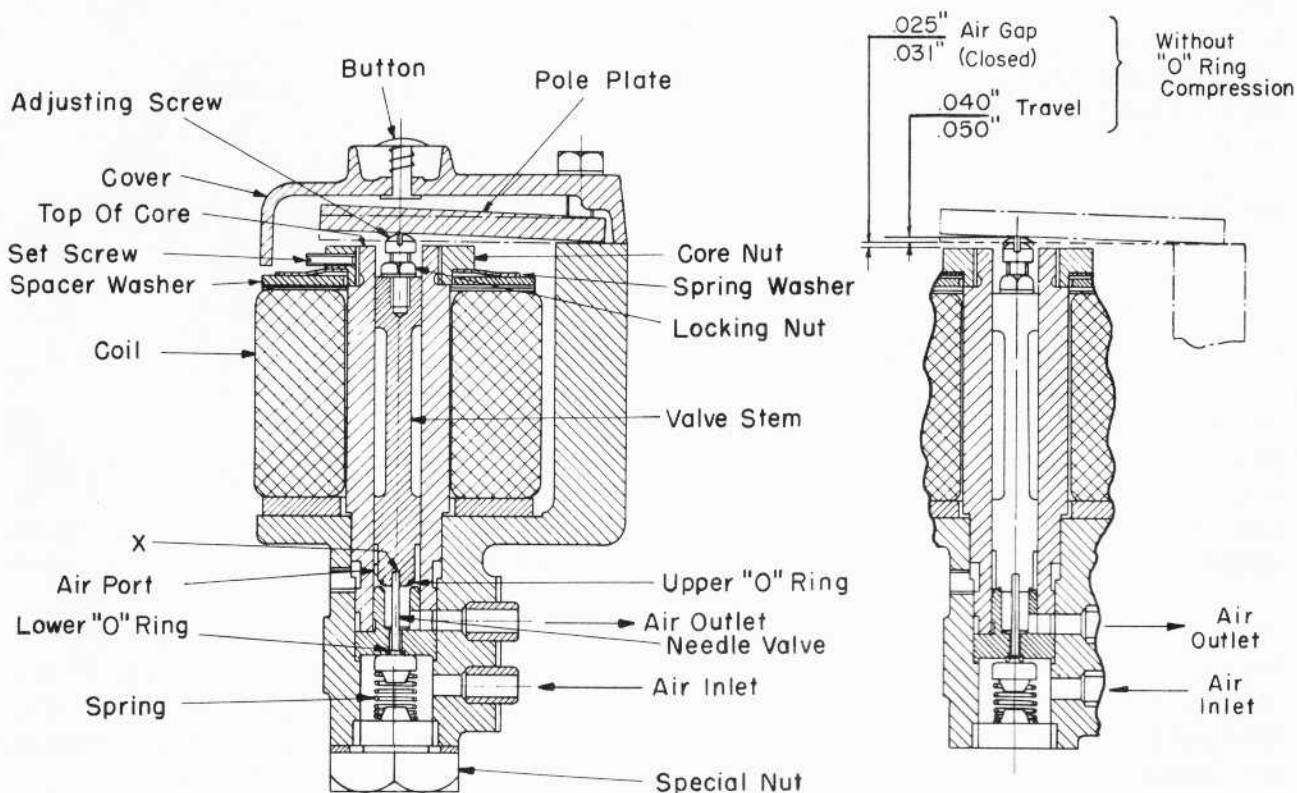
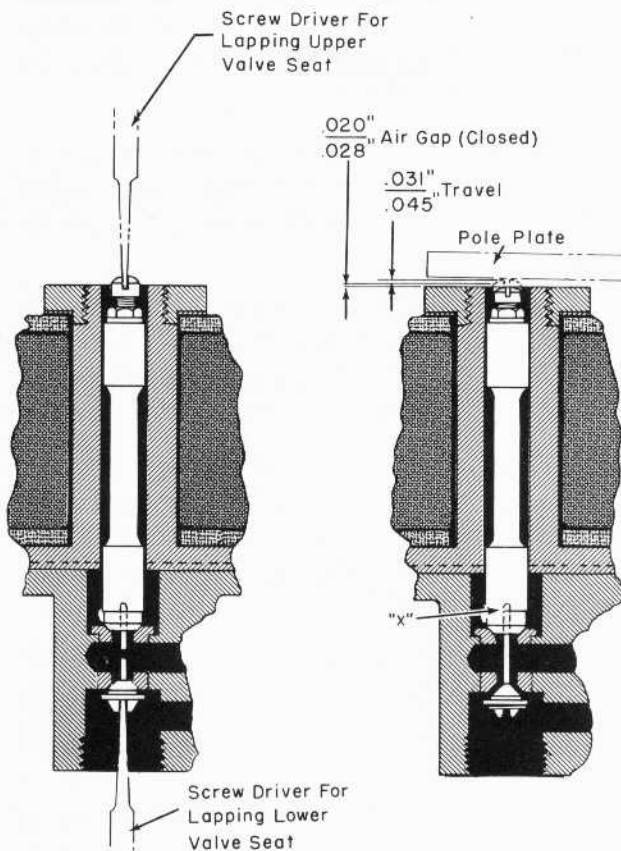

Fig. 2 - Cross-Section Of Magnet Valves 8178755 And 8211837
Fig. 3 - Grinding And Adjustment Of Magnet Valve 8089175
When the low voltage coil of the magnet valve, Fig. 2, is energized, the pole plate is magnetically attracted downward. The valve stem is then moved downward, overcoming spring pressure to open the lower seat and close the upper seat. Control air pressure can now flow past the needle valve to the device being actuated.
The magnet valve can be disassembled for further inspection, cleaning and replacement of worn parts by referring to Fig. 2 and following the procedure below:
Using Clover 2A or similar grinding compound, apply to upper valve seat on the valve stem, then rotate the valve stem back and forth with a screwdriver as shown in Fig. 3.
The valve travel adjustment may be made by following the procedure below and referring to Fig. 2 for magnet valves 8178755 and 8211837, and Fig. 3 for magnet valve 8089175.
5. If the height of the adjusting screw measures more than the maximum listed above, the end of the needle valve marked "x," Fig. 2, should be filed off slightly to bring the valve travel within acceptable limits. Take care not to file off too much since less than the minimum travel indicated will result in improper magnet valve operation.
plate air gap. This is done by referring again to Fig. 2 for magnet valves 8178755 and 8211837 and Fig. 3 for magnet valve 8089175 and following the procedure below.